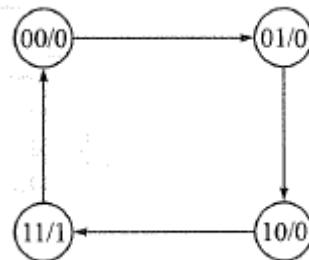

Figure 8.38: State transition diagram of the sequential-circuit given in Fig: 8.37
- signals when there is a count of four (Fig 8.38).